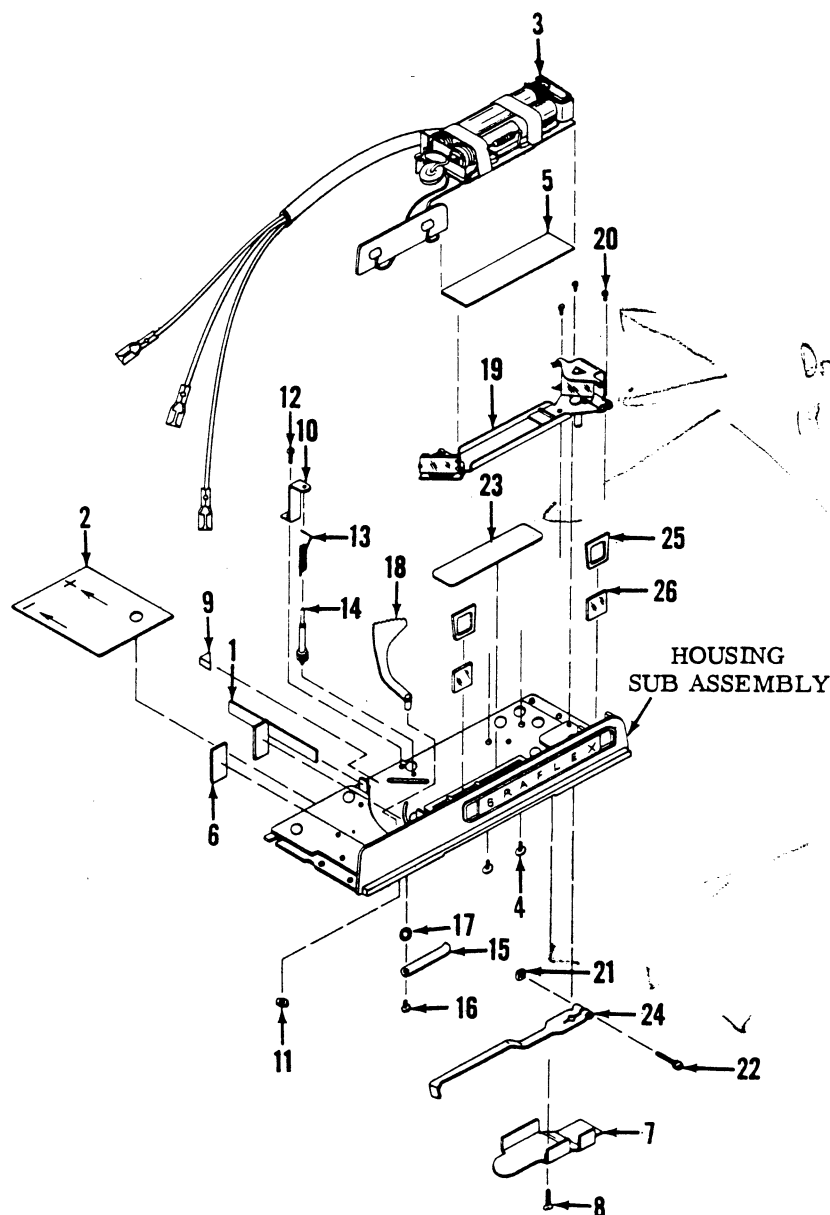

Figure 5. RANGEFINDER HOUSING COMPLETE
**NOTE:** To insure trouble free operation, remove indices 1, 2, 3, 4 & 5 and return rangefinder housing assembly to the nearest Graflex Service Department. An alternate rangefinder housing assembly (at nominal charge), with critical mirror and lever adjustments accomplished, will be returned. A focusing scale indicator (Figure 2-7) and guard (Figure 5 - 2) will also be furnished for installation. Use Cat. #9472 in correspondence when using the exchange program for rangefinder housing assemblies.